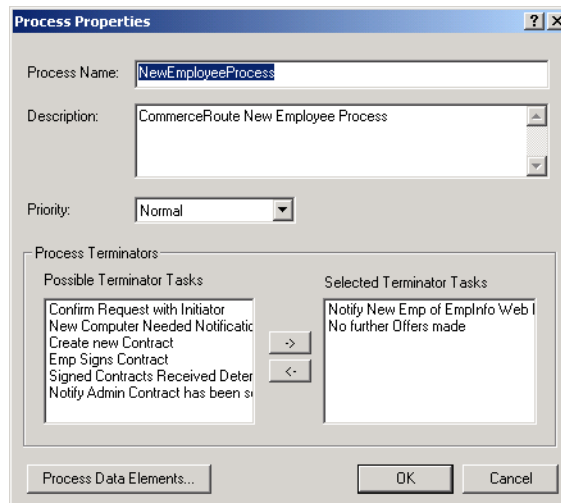

Figure 29-4. The completed **Process Properties** dialog, with the process name and a description.
- ❶ Configure your new process by clicking on the **Properties** button. You will see the Process Properties dialog box (see Figure 29-4 below).
- ❷ Type in a process name. It can be anything you like, but it should be logically meaningful.
- ❸ Do not use any semicolons (;), periods (.), single quotes (‘), ampersands (&), percent signs (%), or quotes (“”) in the process name. Only alphanumeric characters, spaces, and upper and lower dashes (“-” and “_”) are valid as characters in a process names.